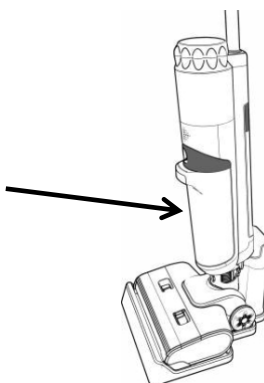

Fig. 9
3. Push the tank into position until it clicks into place (Fig. 9).